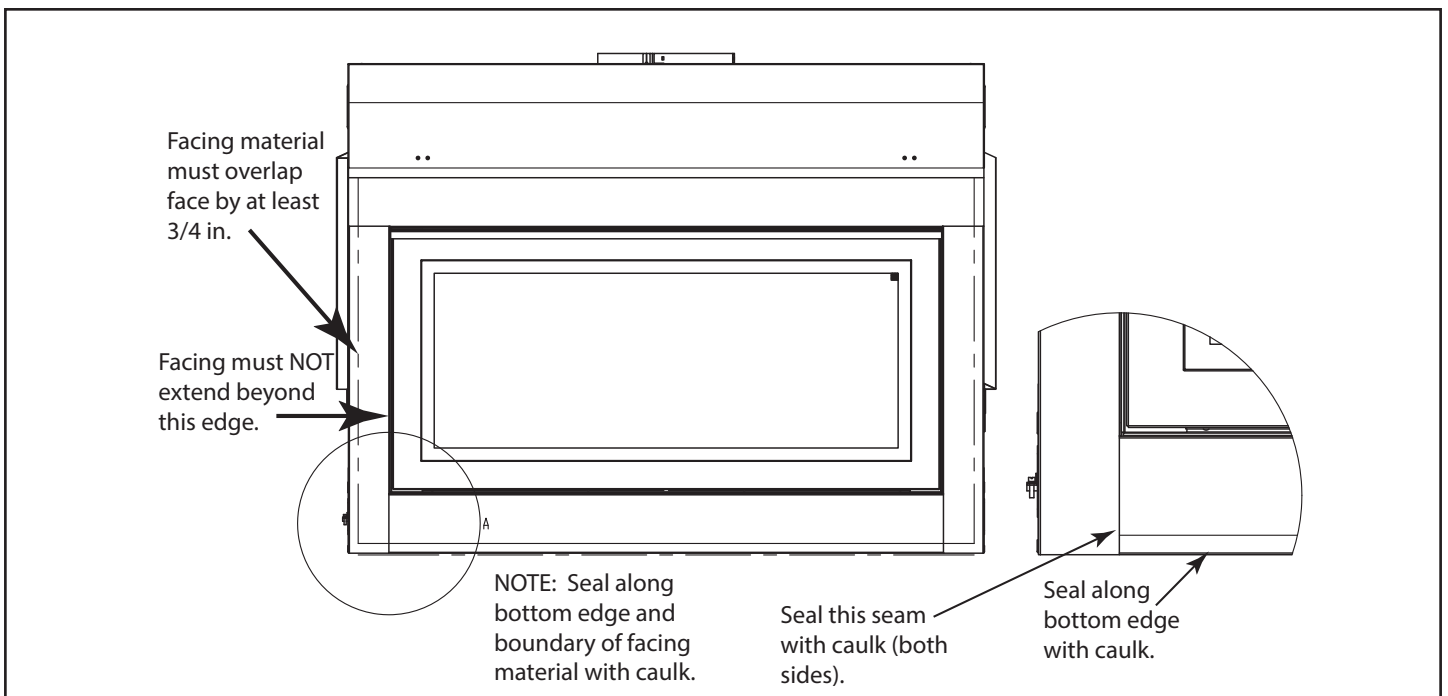

Figure 4.7
6. Apply high temp weather resistant adhesive sealant along the edge of the finishing material and the face of the unit to ensure the fireplace has a watertight seal to the finishing material. See Figure 4.7.